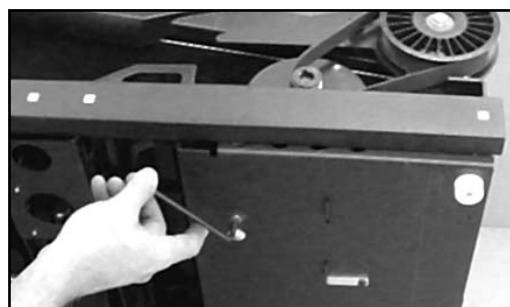

Figure 4-3
- 4-3** Remove the motor shipping bolt from the motor pan with the 3/16" hex key (See Figure 4-3).